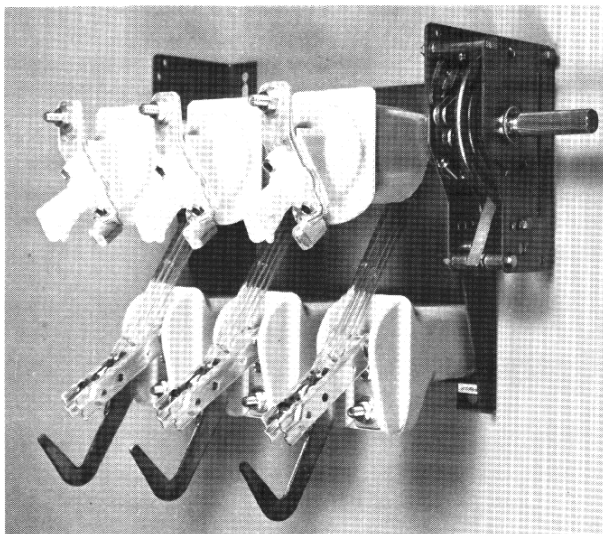

Fig. 1
2.1 Preparation of the switch for installation. Fig. 1. For switches with A-mechanisms, the contact knives must be fully opened by hand and the draw bars connected to the cranks. Before the switch is test operated, one has to check that the surfaces of the main contact are covered by contact grease.
3.1 K-mechanism. Fig. 1.